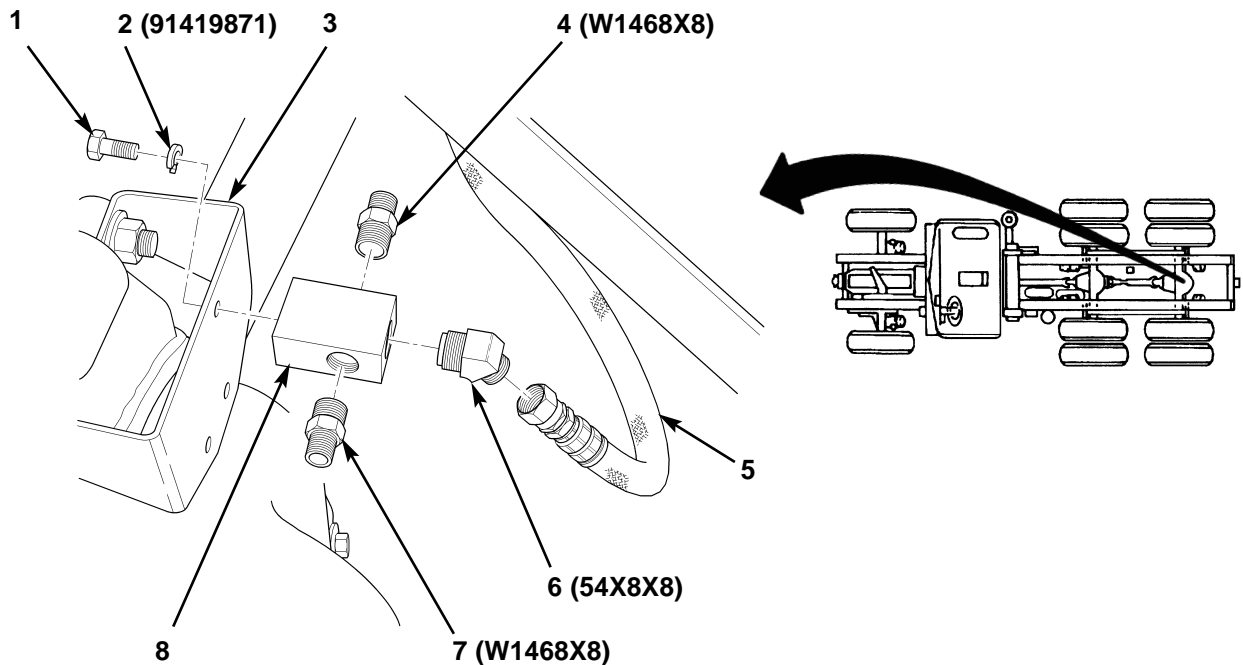

Figure 70. Installing Mountable Tee on Rear-Rear Axle Bracket.
75. Install new elbow (figure 70, item 6) and two new adapters (figure 70, items 4 and 7) on mountable tee (figure 70, item 8), and install mountable tee (figure 70, item 8) on top hole of rear-rear axle bracket (figure 70, item 3) with new lockwasher (figure 70, item 2) and bolt (figure 70, item 1).
76. Connect hose assembly (figure 70, item 5) to elbow (figure 70, item 6) on mountable tee (figure 70, item 8).